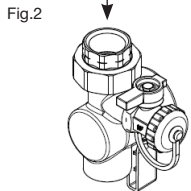

Fig.3
3. PRESSURE RELIEF VALVE (Fig.3)